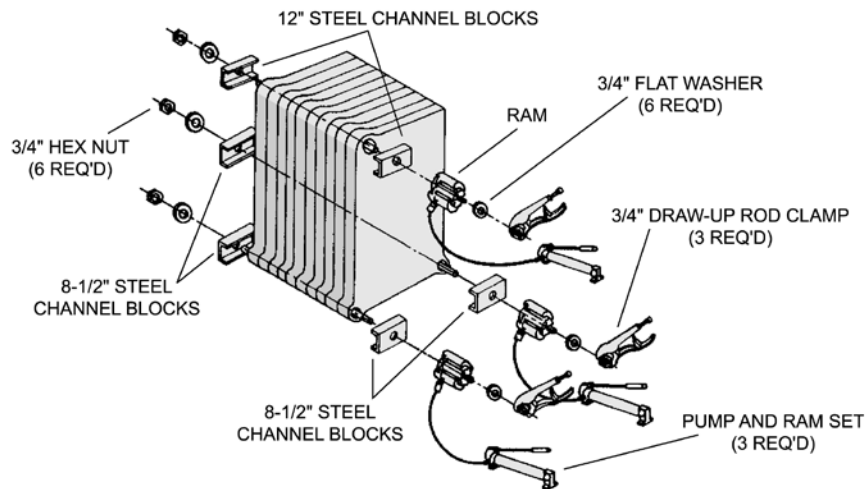

Figure 13: Hydraulic Draw-Up of Sections
- d. Place a 12" long steel channel on each end of the upper draw-up rod and an 8 1/2" long steel channel on each end of the lower draw-up rods. Install nuts and washers on one end of the draw-up rods and the hydraulic rams, washers and draw-up rod clamps on the other. See Figure 13.